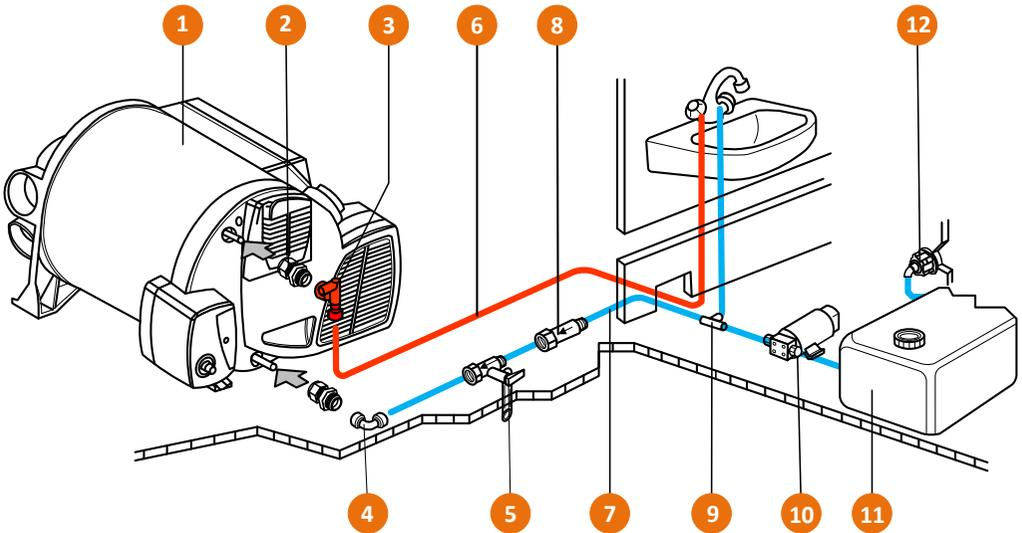

Figure 11
- Connect built-in components of the water system to the water lines; see example diagram, figure 11.